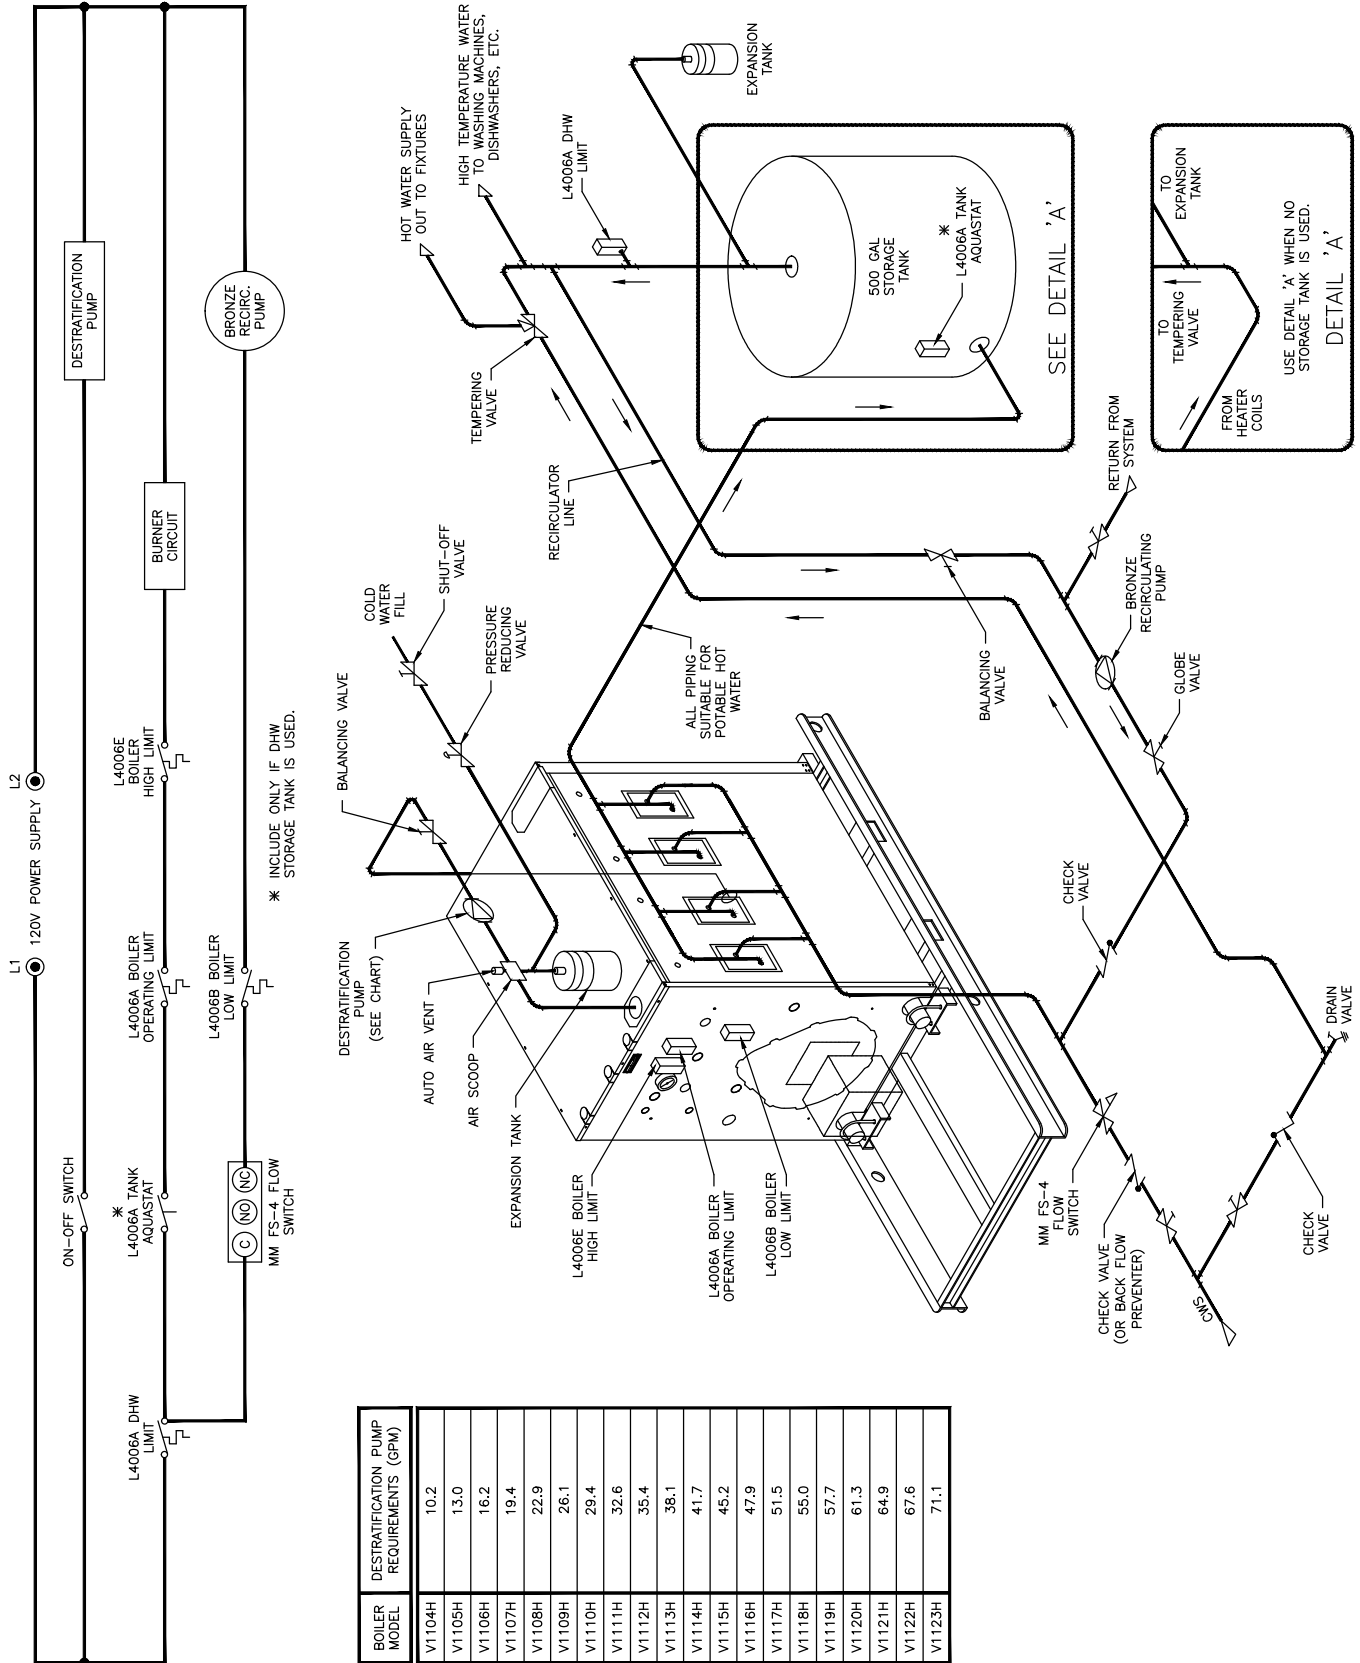

Figure 44a: DHW Generation with Tankless Coils, Storage Tank and Destratification Pump
2. **Hot Water Boiler/Tankless Coils/Storage Tank** – This application involves the use of several tankless coils piped in parallel, emptying into a large storage tank, and is typically used in larger DHW production applications, such as hotel showers and laundries. See Figure 44a for recommended piping and wiring details for this type of application. The tempering valve and recirculation loop are advantageous in these applications, because they provide both high temperature and tempered domestic water to the system, eliminating the need to purge and waste water until it reaches the desired temperature. In the case where the boiler is used for domestic production only, and there is no space heating involved, a destratification pump is utilized to provide flow within the boiler. This flow acts as a means of preventing the hot water from stratifying at the top of the boiler. Destratification pump flow rates are given in the table in Figure 44a.